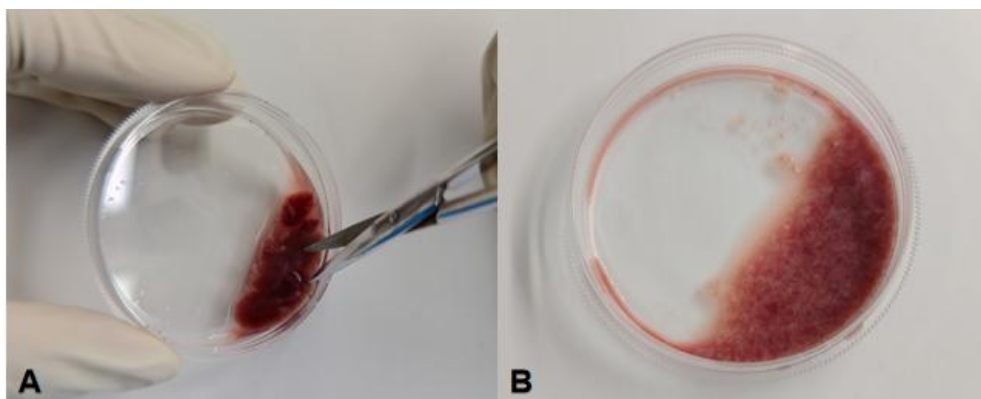

Figure 1. Treatment of liver tissue in vitro
- (1) Tissue Washing: Using a new set of ophthalmic scissors 3, curved forceps 1, bend forceps 1 to clamp the junction of the liver lobes and gently shake the liver tissue. At this time, blood stains flow out. discard the liquid in the dish and add new wash solution until the tissue is completely immersed. Rinse the tissue 2-3 times and use ophthalmic scissors 3 and curved forceps 1 to clean the blood stains, bile ducts, and blood vessels around the liver to obtain pure tissue. Transfer the tissue to a new glass culture dish, Add a little of **Specialized Washing Solution For Rat Kupffer cells** until it just covers the tissue.
- (2) Tissue Processing: Tilt the dish about 45° to allow the liver tissue to gather at the bottom of the dish(which can be gently scraped off with curved forceps 1). Quickly cut the tissue into 1 mm³ pieces using ophthalmic scissors 3, until the tissue is sugar like (as shown in Figure 1) and there are no large pieces of tissue. Use a Pasteur pipette or a pipette with a wide mouthed tip to transfer the tissue fluid and transfer it to a 50 mL centrifuge tube. Add 5 mL **Specialized Washing Solution For Rat Kupffer Cells** to clean the liver tissue culture dish and transfer it to the same centrifuge tube. Centrifuge at 300 g for 1 min, discard the supernatant, and retain the tissue precipitate.
- (3) Tissue Digestion: Add 20 mL of **Digestive Working Solution for Rat Kupffer Cells** to the 50 mL centrifuge tube tissue sediment, blow and mix well, tighten the bottle mouth, wrap it with a sealing film to ensure no leakage, tilt it to allow tissue fragments to fully contact the digestion solution at 4°C for 16 hours of digestion (digestion time should not exceed 16 hours, as excessive digestion will have a significant impact on cell activity).
- (4) After digestion, remove the centrifuge tube and transfer it to a 37°C water bath shaker at 150 rpm for 15 minutes of digestion..
- (5) In the ultra-clean workbench, place a 70 µm Cell filter and 100 µm Cell Filter on a new 50 mL centrifuge tube. Pre-wash the filter with 1-2 mL Specialized Washing Solution For Rat Kupffer Cells.
- (6) Cell Filtration: Remove the centrifuge tube and open it in the ultra-clean workbench. Blow the tissue suspension with a 5 mL pipette tip at least 30 times. Add 5 mL of **Specialized Washing Solution For Rat Kupffer Cells** to dilute. Take the cell suspension at this time and filter it through a 100 µm cell filter and a 70 µm cell filter in sequence to collect the filtrate.